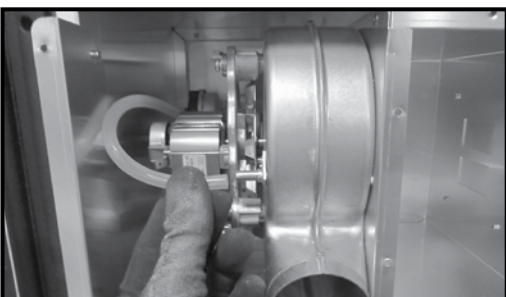

Figure 5.5
4. Remove the vacuum tube from the blower. See Figure 5.5.